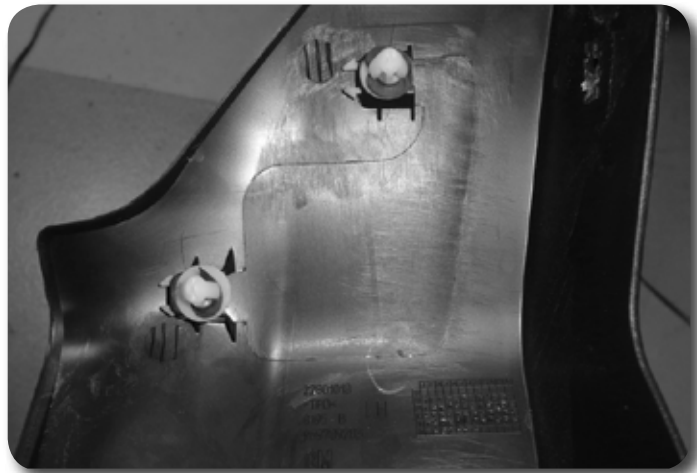

Figure 8A
13. Reinstall the plastic splash guard. The two screws for the splash guard will go into the clips on the fender trim bracket. Make sure the plastic clips are properly installed into the plastic splash guard. They will snap into place as shown in **Figure 8A & 8C**. The finished fender trim kit will completely cover the fender trim bracket. **Figure 8D**